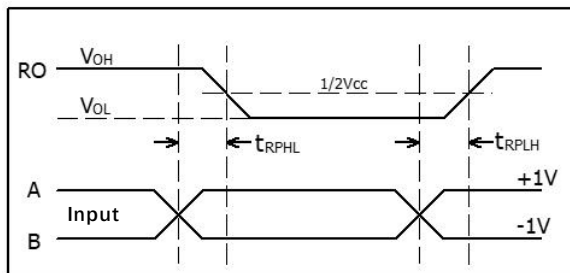

Figure 8 Receiver Propagation Delays
- (8) Test circuit is shown in Figure 8